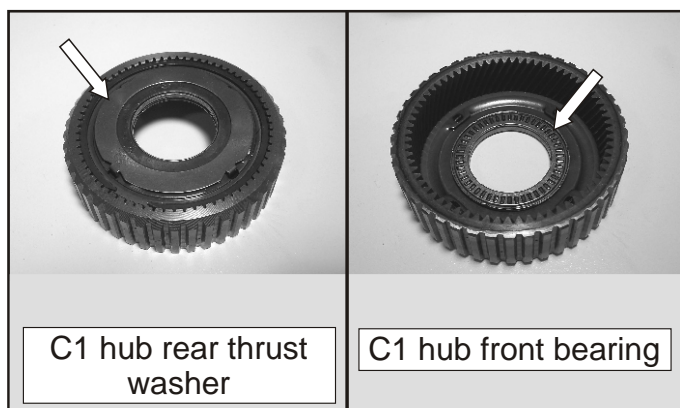

Figure 76
25. Remove the front and rear bearings from the C1 hub as shown in Figure 76.